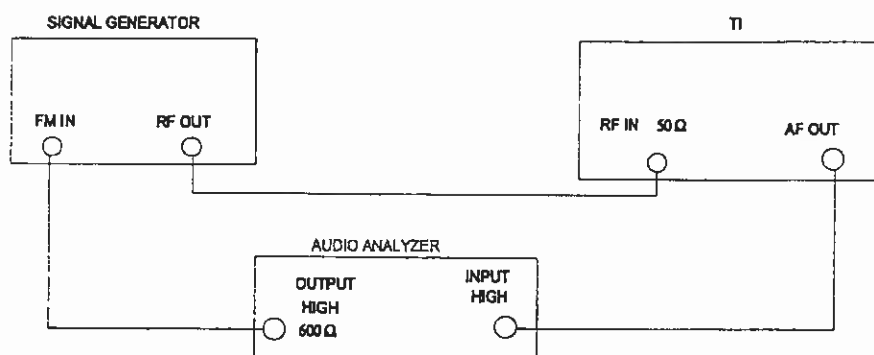

Figure 4.
4.7.1 Connect the equipment as shown in Figure 4.
■ 4.8.1 With equipment connected as shown in Figure 4 perform the FM rejection calibration.
4.9.1 With equipment connected as shown in Figure 4 perform the 3 kHz filter calibration.
4.10.1 With equipment connected as shown in Figure 4 perform the de-emphasis calibration.
4.10.7 Disconnect equipment shown in Figure 4.